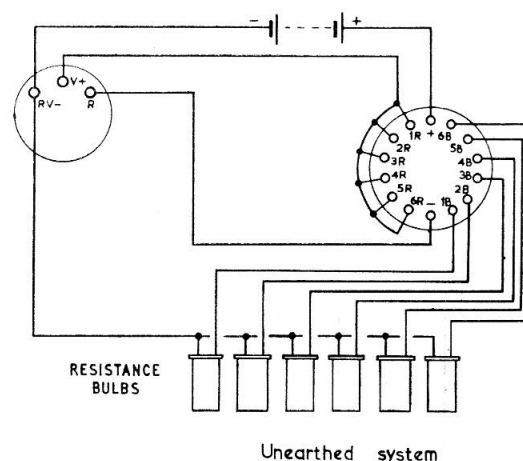

Fig. 2. Connections for use with resistance bulbs
3. When used in resistance bulb circuits, connections should be as shown in fig. 2 for a 6-way switch; when a 2-way or a 4-way switch is used, the connections not applicable will be omitted. All circuit connections should be made from flexible copper cable, and the resistance between indicator and resistance bulb must not exceed 0.4 ohm or 1 ohm balanced circuit when a three-wire system is employed.